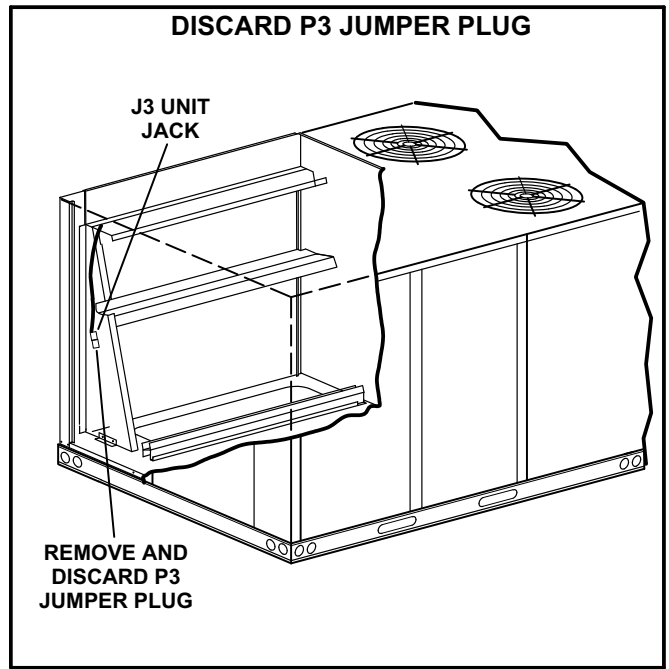

FIGURE 6
- 7- From inside the filter access panel, remove the unit jumper plug P3 from unit jack J3 and discard. See figure 6.